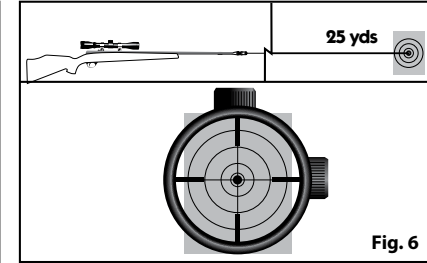

Fig. 6
- Sight in. Shine the laser onto a target 25 yards away. Adjust the scope or sight's windage and elevation dials until the laser dot matches up with the center of the crosshairs or sight. If sighting in at a shorter distance (i.e. at 10yds) adjust the crosshairs approximately 2inches above the red laser dot (Fig. 6).